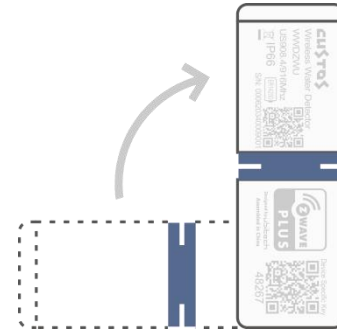

Figure 12B
- v. While GREEN & RED LED are flashing alternative for Gesture Recognition then turn Custos WWD from Horizontal to Vertical position “90°”and stick close to table surface as Figure 12B;